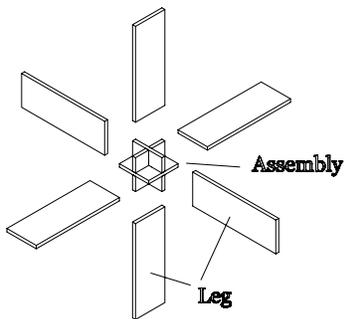
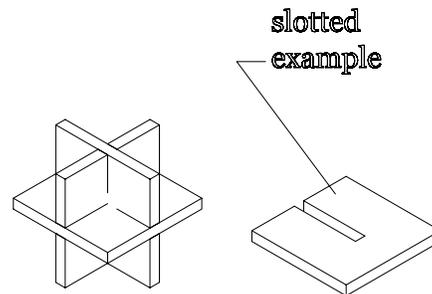

Figure 4.
Figure 5.
- 2.2 Break the model into 9 parts, 6 legs and 3 center assembly components (figure 4). Create slots in the assembly of three center pieces each piece should slot into the other piece. Test the sequence of assembly cutting the 3 parts on the laser cutter (figure 5).